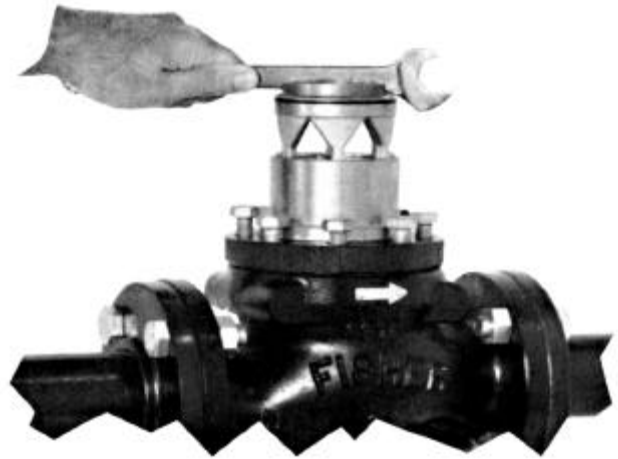

Figure 10. Seat Ring/Cage Removal or Installation Using Body as Holding Fixture
1. Remove the indicator fitting (key 5) and attached parts. Proceed to step 5 if only maintenance on the fitting or attached parts is performed.
2. Remove the cap screws (key 3) with a cast iron body, or remove the stud bolt nuts (key 29, not shown) with a steel body, and pry the body flange loose from the valve body (key 1).
3. Use the valve body as a holding fixture if desired. Flip the body flange over, and anchor it on the valve body as shown in figure 10, removing the pipe plug (key 31) first if necessary.
4. To gain access to the port seal (key 12), upper seal (key 15), or valve plug parts, unscrew the seat ring (key 13) from the cage (key 11) and the cage from the body flange. For leverage, a wrench handle or similar tool may be inserted into the seat ring slots (figure 10) and a strap wrench may be wrapped around a standard or a Whisper Trim^R cage, or a soft bar may be inserted through the windows of a standard cage. To remove the piston ring (key 14) and/or plug O-ring (key 20), remove the valve plug (key 16) from the body flange, insert a screwdriver into the precut foldover area of the piston ring, and unfold the piston ring. Proceed to step 6 if no further maintenance is necessary.
5. To replace the body flange or gain access to the spring, indicator stem (key 10), stem O-ring (key 7), spring seat (key 28), E-ring (key 23), or optional travel stop, remove the indicator protector (key 19) and indicator scale (key 18). Since some compression is left in the spring, carefully remove the flanged nut (key 22) and hex nut (key 8). A screwdriver may be inserted through the press-fit bushing (key 6) to remove the stem O-ring without removing the bushing. If necessary, unscrew the travel stop (if used), and unclip the E-ring from the indicator stem.
6. Replace and lubricate parts such as the gasket (key 4) and cage O-ring (key 17) as necessary, making sure that if the port and upper seals were removed they are installed in their retaining slots with the grooved sides facing out. Also lubricate any other surfaces as necessary for ease of installation. No further main valve maintenance is necessary if just the indicator fitting and attached parts were removed.
7. Install the plug O-ring (key 20) and piston ring (key 14) onto the valve plug. Insert the valve plug into the body flange, install the cage plus upper seal and O-ring into the body flange, and then install the seat ring plus port seal into the cage. Use the valve body as a holding fixture during this step as shown in figure 10, and insert a wrench handle or similar tool into the seat ring slots for leverage when tightening the seat ring and cage.